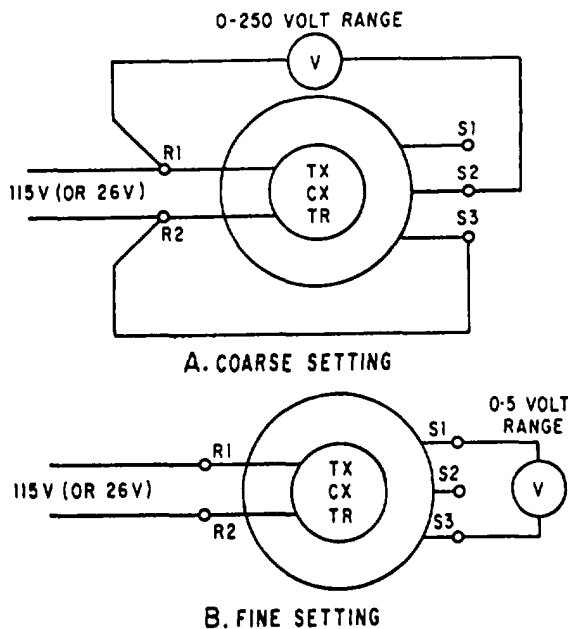

Figure 2-7.—Zeroing a transmitter or receiver by the voltmeter method.
2. De-energize the synchro circuit and disconnect the stator leads. Set the voltmeter to its 0- to 250-volt scale and connect it into the synchro circuit as shown in figure 2-7, view A.
4. De-energize the synchro circuit and connect the meter as shown in figure 2-7, view B, using the 0- to 5-volt scale.